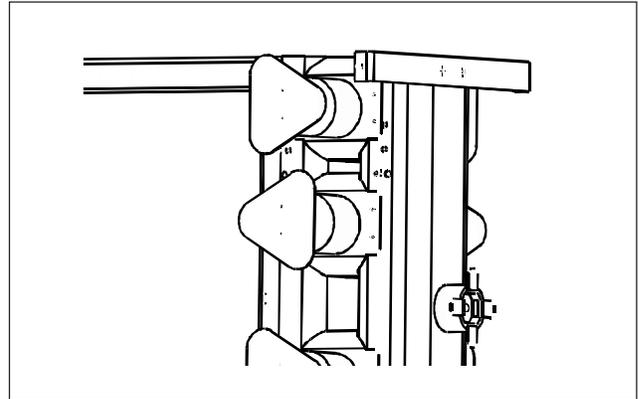
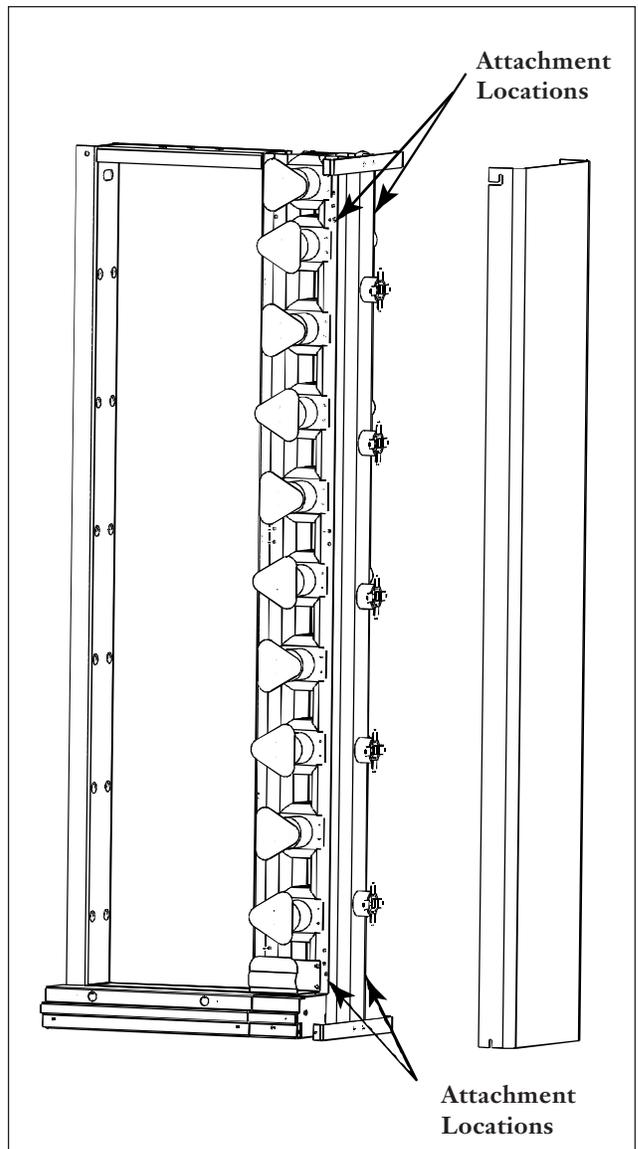

Figure 3
Figure 4
6.1 Attach the curved baseplate to the Interbay Dual Storage (IBDS) unit upright. The curved baseplate fits inside the IBDS unit upright (Figure 3). Use four (4) 12-24 screws to fasten the parts together in the locations (front and back) shown in Figure 4.